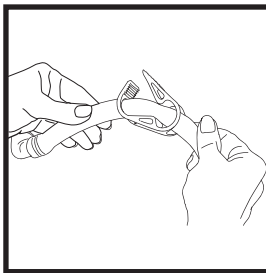

Fig. 2a
- the clips on the connecting pipes are open (Fig. 2a).